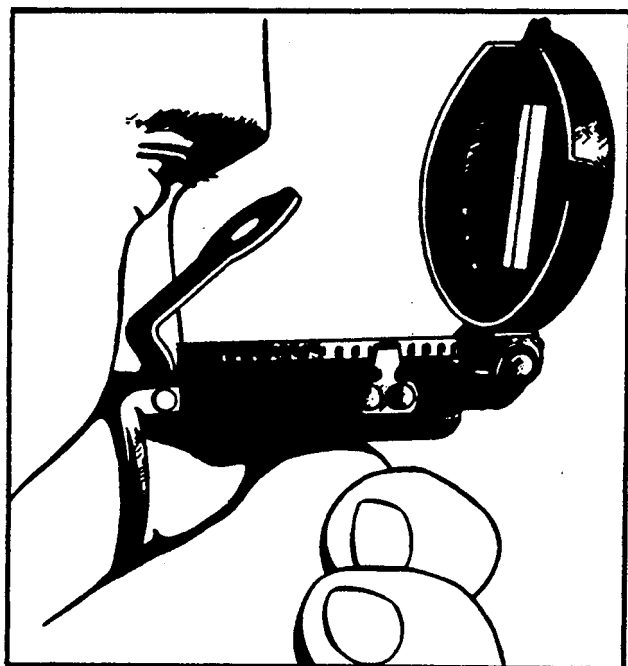

Figure 5-27.—A method of holding the compass.
1. Open the cover of the compass so it forms a right angle with the compass. Move the eyepiece so the compass dial is visible through the lens, as shown in figure 5-27.